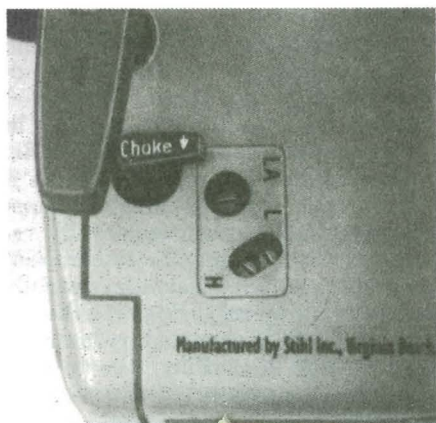

Fig. ST1—View showing carburetor adjustment points: idle speed screw (LA), low speed mixture screw (L) and high speed mixture screw (H).
Initial adjustment of low speed mixture screw (L—Fig. ST1) and high speed mixture screw (H) is $\frac{3}{4}$ turn open from a lightly seated position. Final adjustment should be made with engine warm and running. Make certain engine air filter is clean before adjusting carburetor.